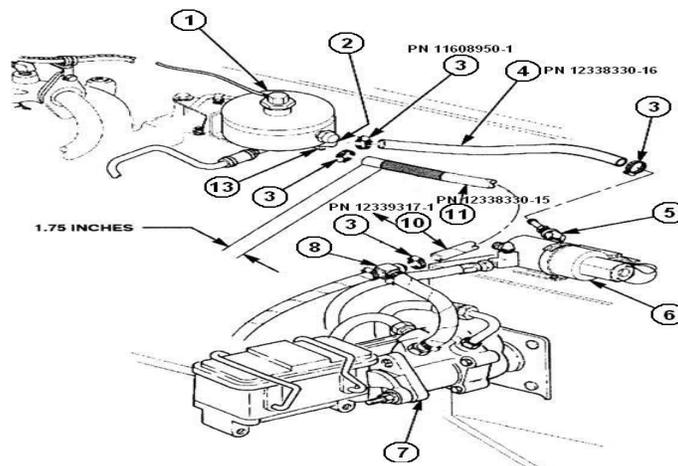

Figure 23
v. Installation of Power Steering Fluid Return Hoses. Refer to TM 9-2320-387-24-1, Chapter 8, Task Para 8-25, Page 8-68 and **Figure 23** contained in these instructions.
(1) Ensure that the existing plastic trim wrap (10) is reused and cut to fit as required on hose (11).
(2) Install two 11608950-1 hose clamps (3) on 12338330-15 hose (11) and connect to front port (13) on power steering reservoir (1) and tee (8) at hydro-booster (7).
(3) Tighten hose clamp (9) at front port (13) and leave hose clamp (9) at tee (8) loose at this time.
(4) Install two 11608950-1 hose clamps (3) on 12338330-16 hose (4) and connect to rear port (2) on power steering reservoir (1) and elbow (5) on hydraulic control valve (6). Tighten hose clamp (3) at rear port (2) – **LEAVE HOSE CLAMP (3) ON ELBOW (5) LOOSE AT THIS TIME.**